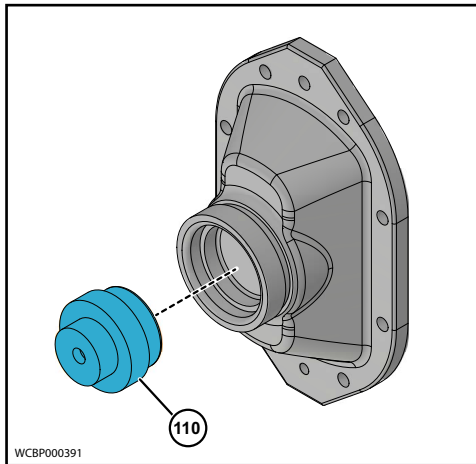

Figure 96 - Remove Diaphragm Bushing
2. Remove the Diaphragm Bushing (110) from the Cover Port, as shown in Figure 96.